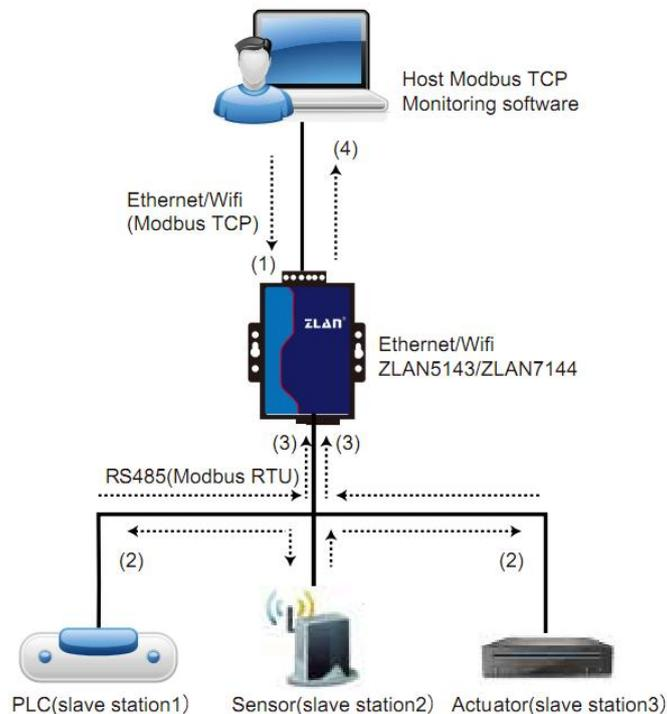

Figure 29 Storage Modbus Gateway
As shown in figure 29: ordinary Modbus TCP data flow direction (1) → (2) → (3) → (4). In other words, Modbus TCP instruction is first converted into corresponding Modbus RTU instruction, and then the device responds Modbus RTU instruction to Modbus gateway, which is then converted into Modbus TCP again and sent to the monitoring host computer.
As shown in figure 29, if the serial port device (RTU device) is the master station and the Modbus TCP device (Modbus TCP device) is the slave station, and multiple network port slave station devices exist simultaneously. In this case, the serial port server can be used as the client to connect to multiple network port devices at the same time according to the method introduced in "5.2.2 Client Connect to Multiple Servers" .